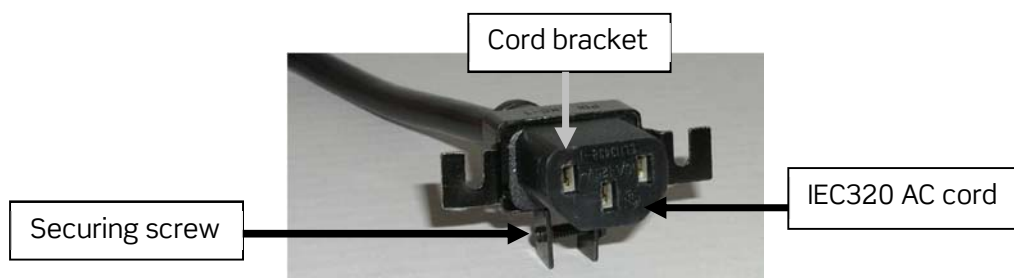

Figure 13 - AC Cord Bracket (IEC320 Connectors)
1. Place the bracket on the plug as shown in Figure 13. You can secure it to the plug by tightening the screw on the bracket.